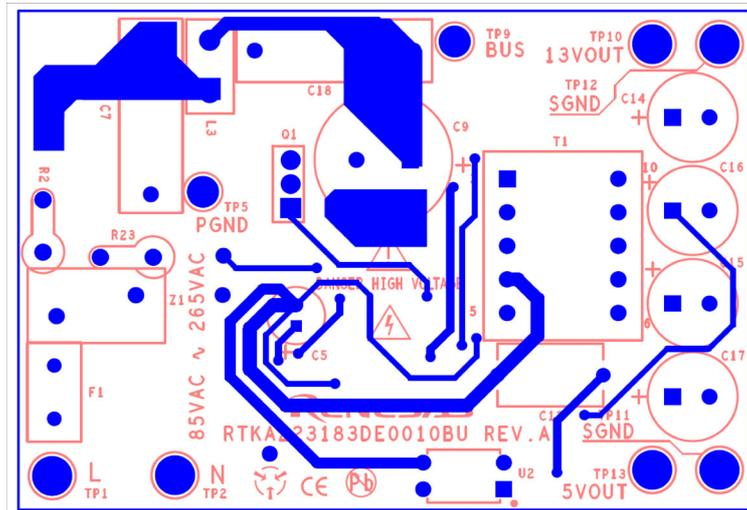

Figure 5. Top Layer
- Use the star connection of ground traces as shown in the top layout picture (Figure 5). The connection point needs to be close to the IC ground pin.